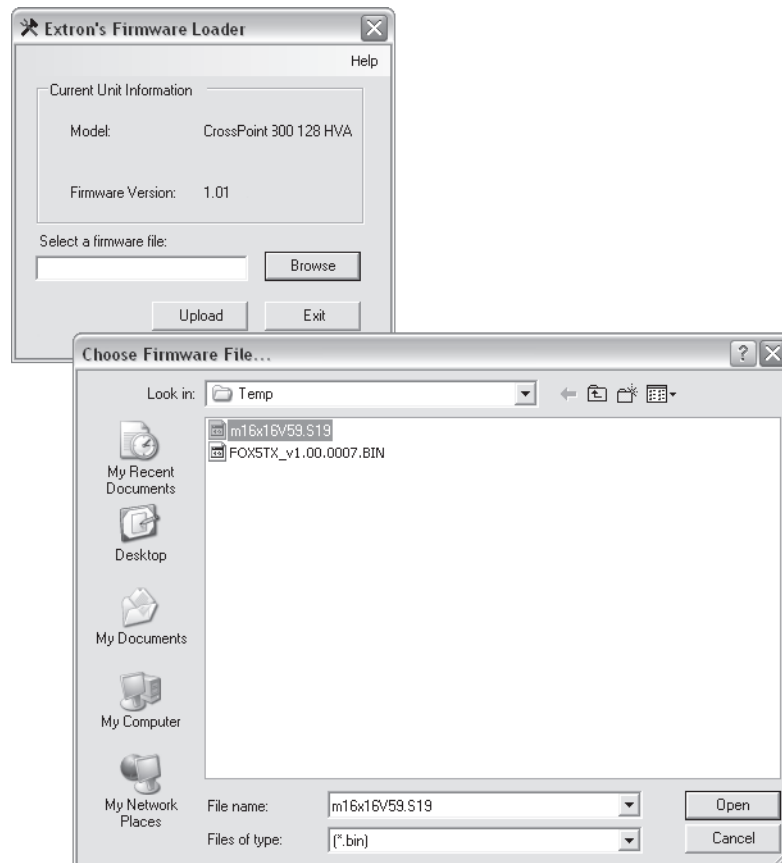

Figure 5-7 — Open window
5. Click *Tools > Update firmware*. The Extron Firmware Loader utility appears (figure 5-7).